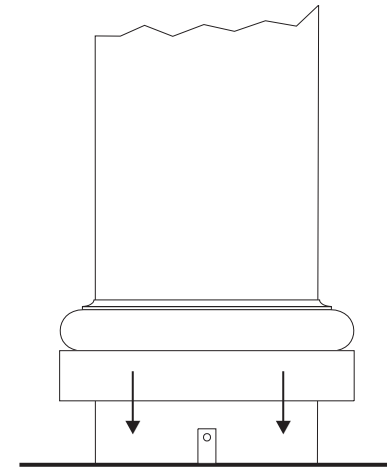
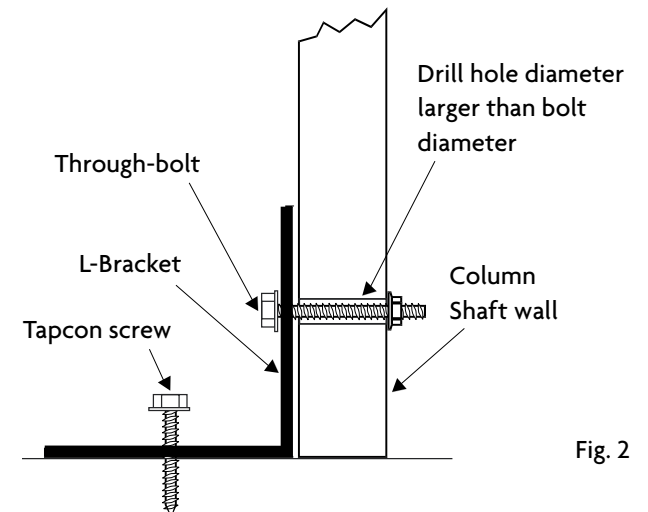

Fig. 1
Fig. 2
3. Slip one-piece cap and base on to column shaft (see figure 1). The two-piece cap and base are attached after the shaft is installed. If installation requires some method of securing the column in place before load is applied, use Classicast Installation Kit #71760 (see figure 2) **NOTE:** Always drill clearance holes in columns and secure with through-bolts—**DO NOT USE SCREWS**—and do not over-tighten.